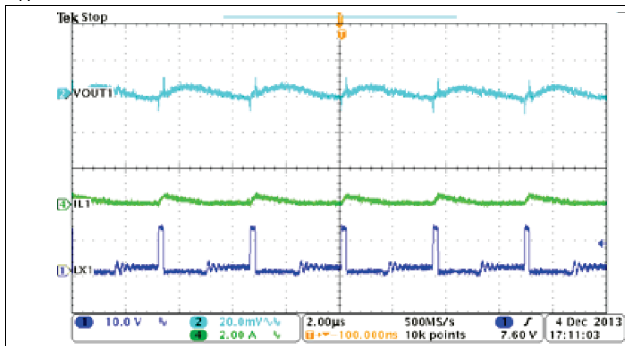
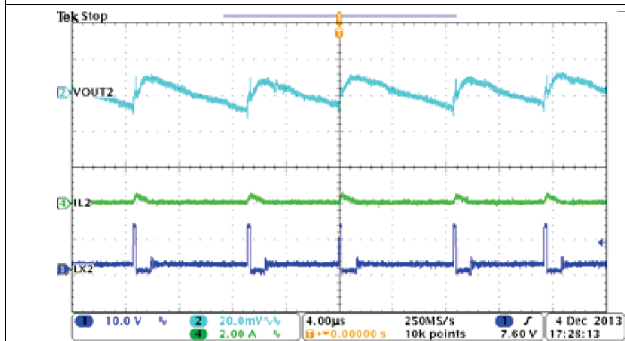
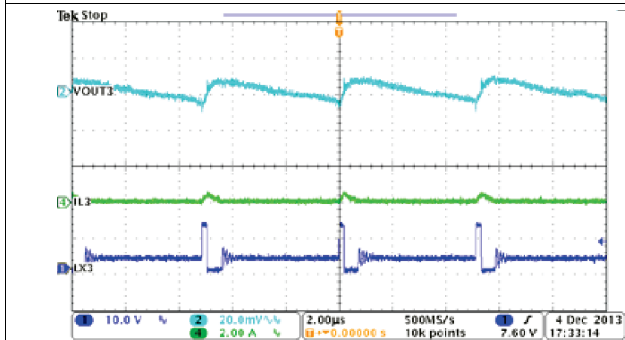

Figure 37. Buck1, Steady State Operation With Light Load
Figure 39. Buck2, Steady State Operation With Light Load
Figure 41. Buck3, Steady State Operation With Light Load
The device is designed to operate in high-efficiency PSM under light load conditions. Pulse skipping is initiated when the switch current falls to 0.23 A. During pulse skipping, the low-side FET is turned off. The switching node (LX) waveform takes on the characteristics of DCM operation and the apparent switching frequency decreases as shown in Figure 37, Figure 39, and Figure 41.